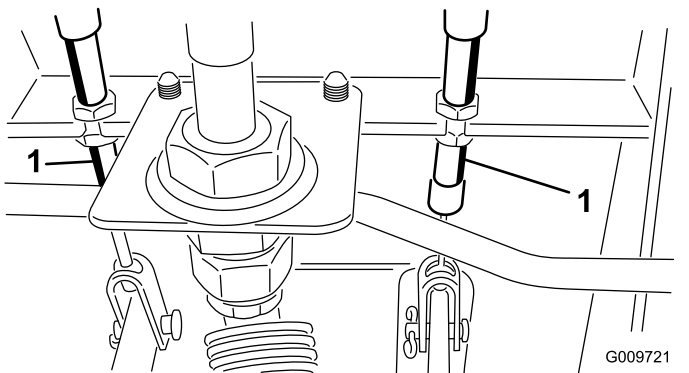

Figure 115
- A. Loosen the front nut on the threaded end of the brake cable (Figure 115).